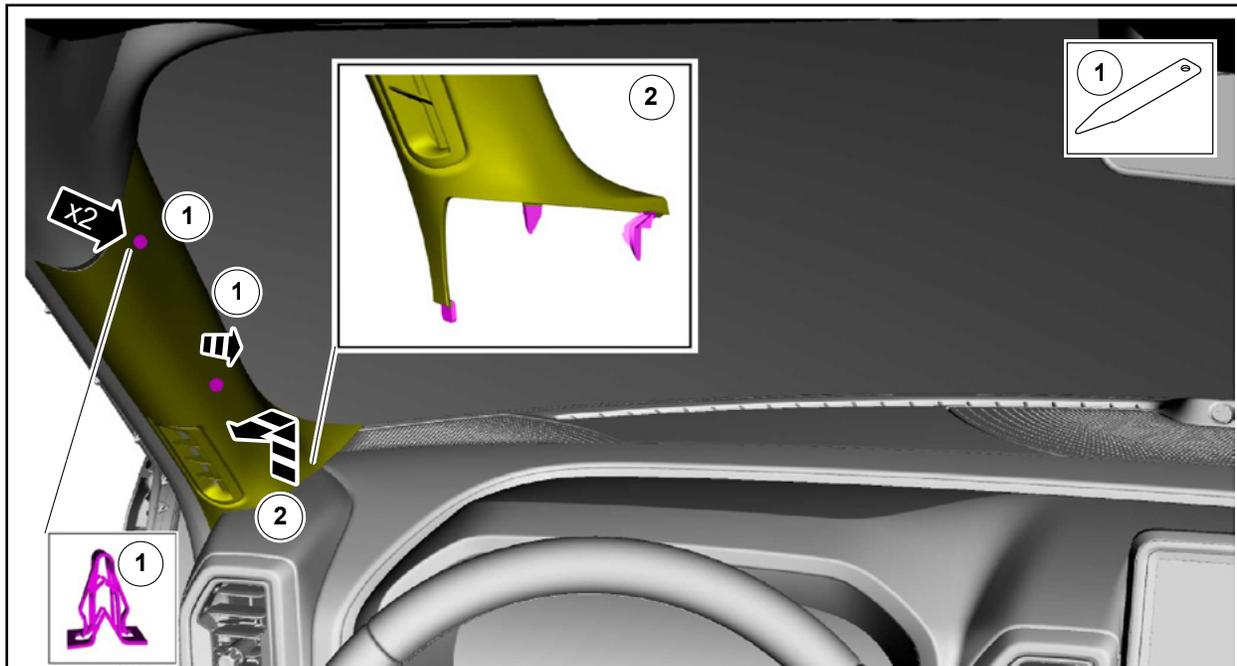

FIGURE 1
1. Position aside the left hand (LH) side A-pillar trim panel. See Figure 1.